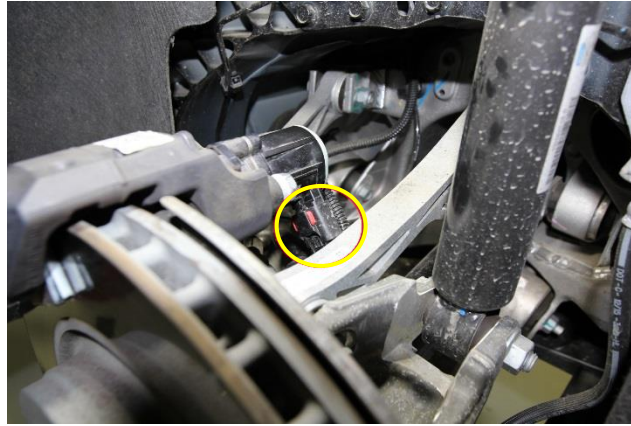

Figure 30
43. Connect the electrical harness to the LH parking brake caliper connector, fasten the red retaining tab, and then perform a push-pull-push check of the connection (Figure 30).